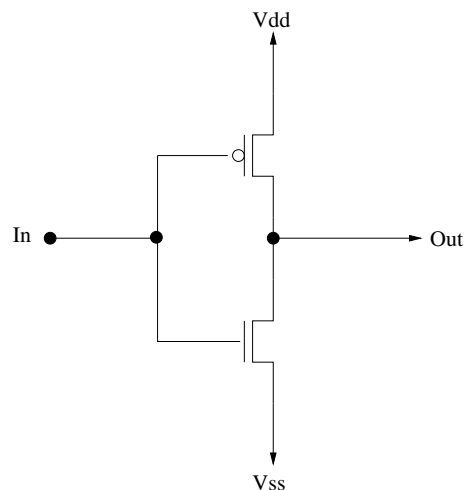

Figure 1: transistors diagram of a C-MOS invensor
- draw the inverter "stick-diagram" `inv_x1` whose transistors diagram is represented on the figure 1.